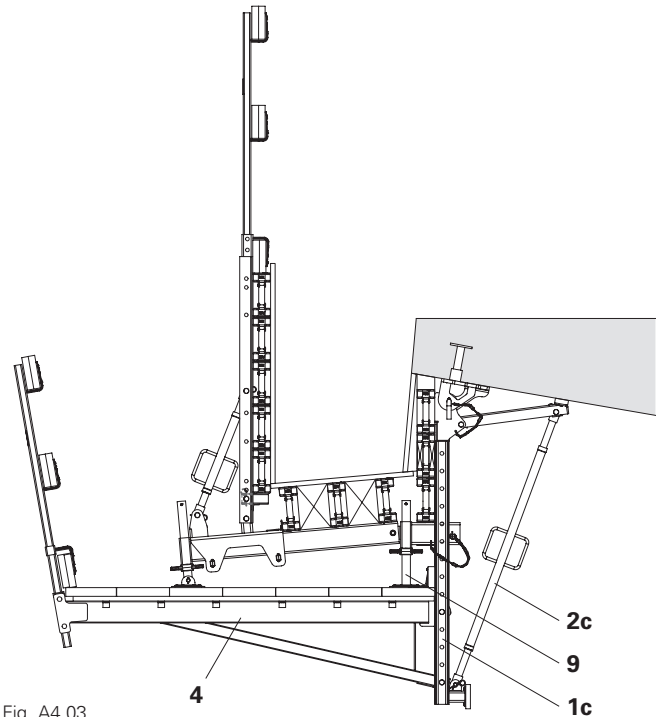

Fig. A4.03
- Platform Cantilever Beam VGK 170 (**4**) is connected to the holes on Bracket Post VGK 139 (**1c**) according to the dimensions of the cantilevered parapet. (Fig. A4.03)